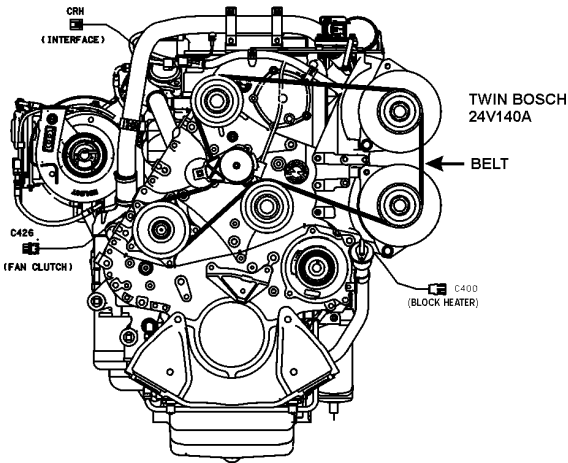
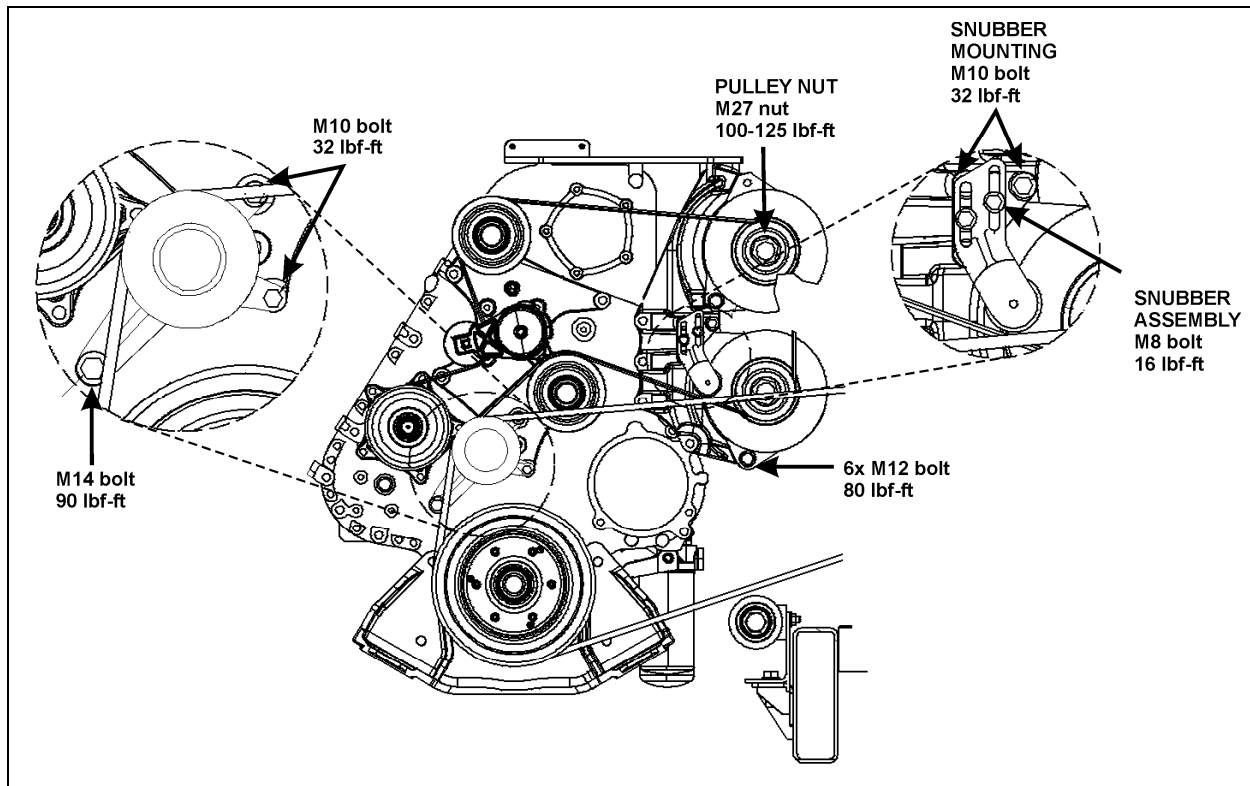

FIGURE 17: ALTERNATOR DRIVE BELT
FIGURE 20: ALTERNATORS AND ACCESSORIES MOUNTING TORQUES
If the alternators needed to be removed, reinstall as follows. Refer to figure 17 up to figure 20 for installation and tightening specifications:
4. Install the snubber bracket (fig. 20) using three flanged bolts. Do not tighten the adjustment bolts on the snubber until after final tightening;
5. Install the A/C compressor belt idler pulley (fig. 20) as shown. A stud inserts into one of the mounting holes of the pulley assembly. Fasten this one using a nut and bolts for the other two.